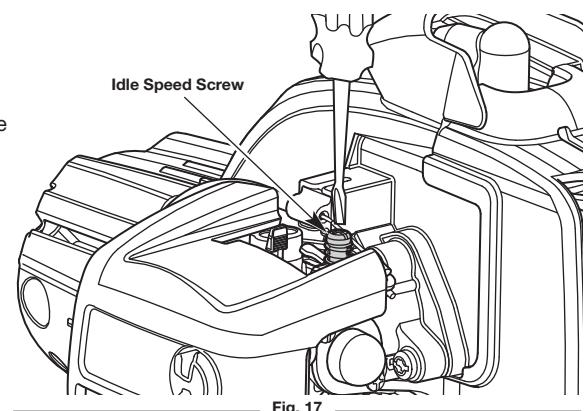

Fig. 17
The idle speed of the engine is adjustable. An idle adjustment screw is between the air filter cover and the engine starter housing (Fig. 17).
- Release the throttle trigger and let the engine idle. If the engine stops, insert a small Phillips screwdriver into the idle adjustment screw (Fig. 17). Turn the idle speed screw clockwise 1/8 of a turn at a time (as needed) until the engine idles smoothly.